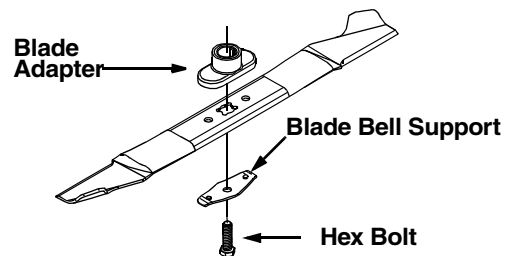

Figure 11
- Remove the bolt and blade bell support which hold the blade and adapter to the engine crankshaft. See Figure 11. Remove the blade and the adapter from the crankshaft.
- Place blade bell support on blade. Make sure the notches on the blade bell support are aligned with the small holes in the blade. See Figure 11.